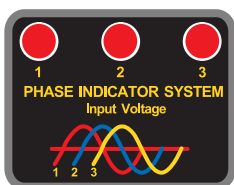

Figure 4.5.1
1. Toggle the circuit breaker on the front panel to “ON”. Three lights on the front panel should illuminate indicating 3-phase installation, 2 lights for 1-phase installation (*fig. 4.5.1*)